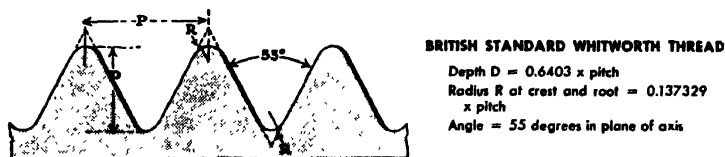

Fig. 17-9. The British Standard Whitworth thread. (*The Shell Oil Company*)
*The British Standard Whitworth Thread* (Fig. 17-9). The British Standard Whitworth thread form is another of the locking threads but its sides are set at an included angle of 55 deg. instead of 60 deg. Because of this steeper slope of thread form, it has greater strength. Also, because of the long radius of the root and crest, it has exceptional locking characteristics.